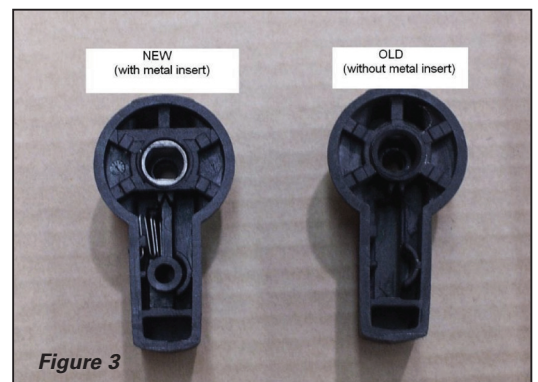

Figure 3
5. Examine the rear of the handle. Figure 3 shows the new design handle with a metal insert and the old handle without a metal insert. If you have a new design handle, simply replace it on the shaft and secure with the screw.